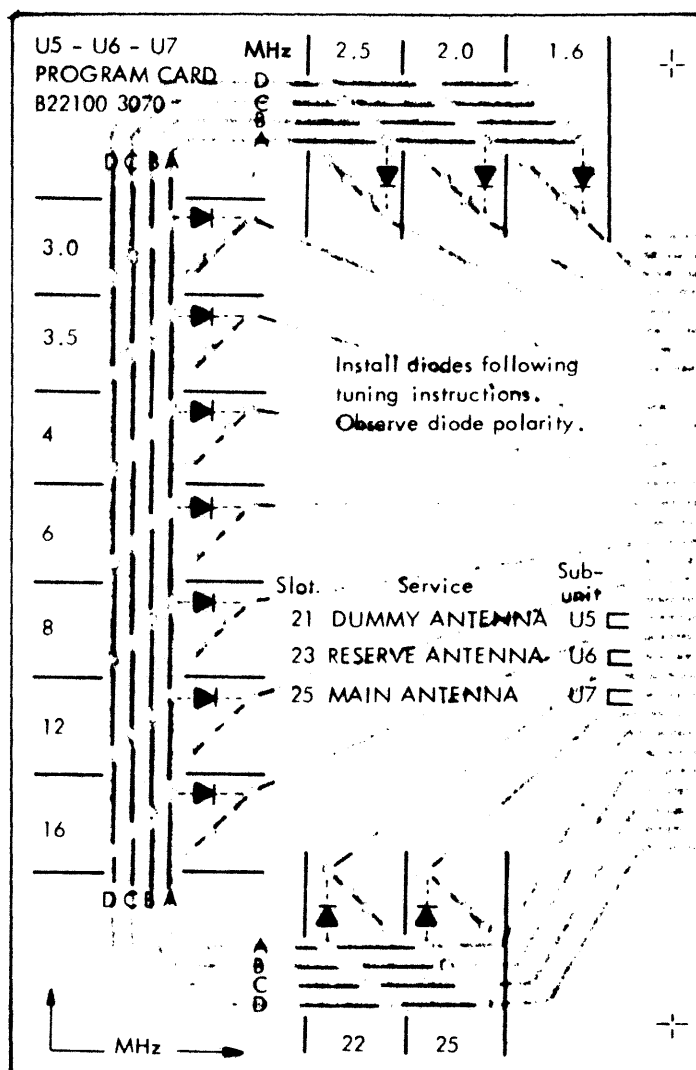

Fig. 2.11 - LOAD Start Card
e. Subtract 1 or 2 from the figure above and read the Program Code. Install on the pc board — at the particular band — diodes for "1". Figure 2.11 shows the program card before programming.